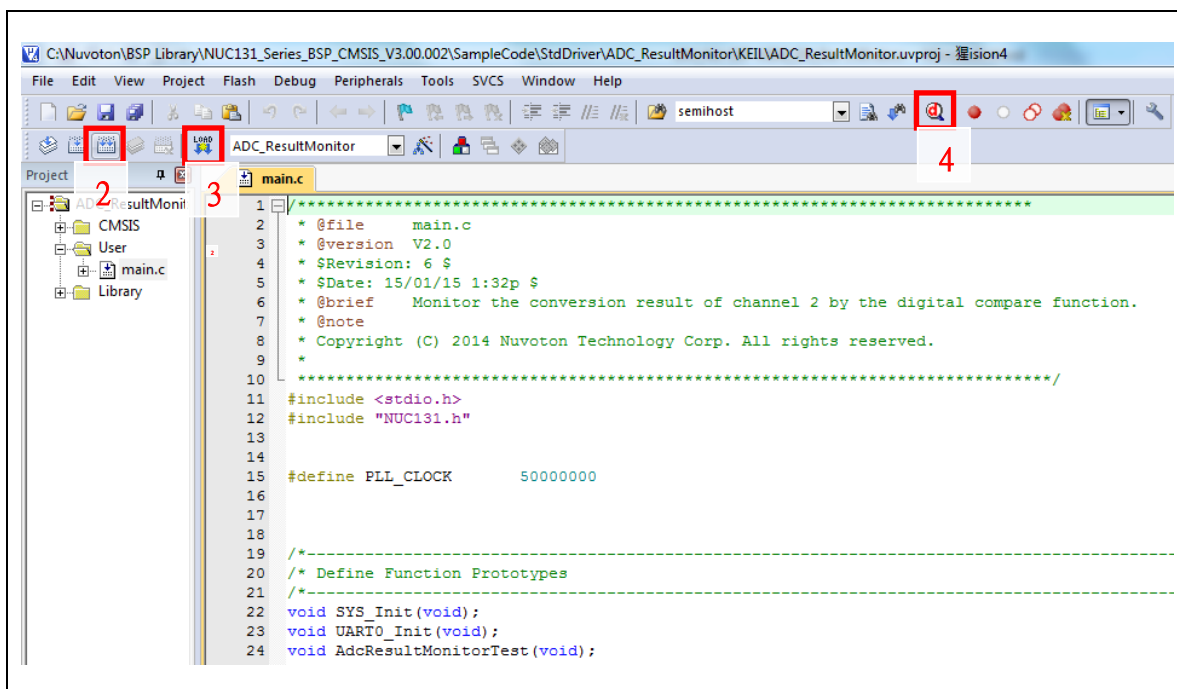

Figure 6-9 ADC Enter Compile Mode Interface
- Compile and link the SYS application (Step 2 in Figure 6-9)
- Program the application code into on-chip Flash ROM (Step 3 in Figure 6-9)
4.  **Open Debug Mode** (Step 4 in Figure 6-9)